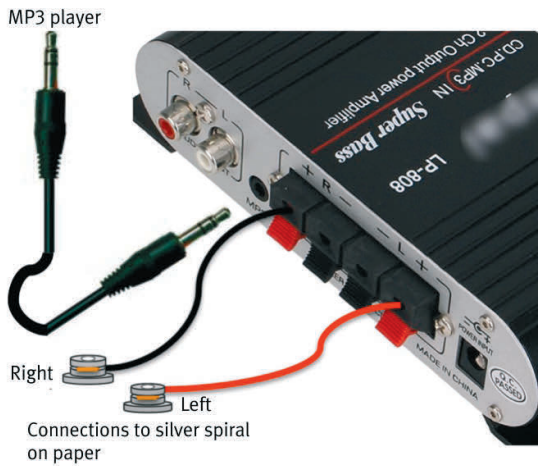

Figure 30: Amplifier cable connections
- Plug the output cables and the MP3 connector cable into the amplifier (see figure 30) and connect the power cable.